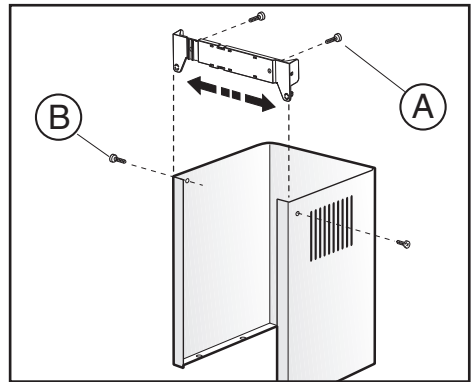
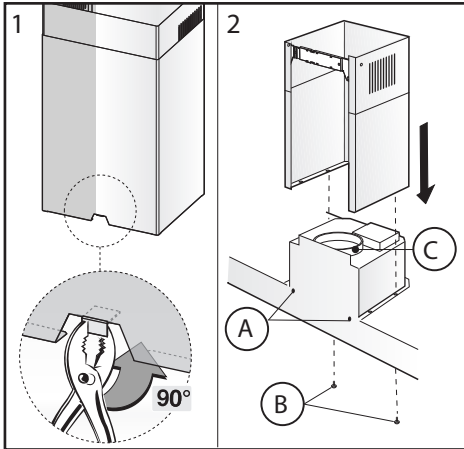

Fig.3
Fig.5
definitely fix the hood using the screws **A** (Fig.5). For the various installations use screws and screw anchors suited to the type of wall (e.g. reinforced concrete, plasterboard, etc.). If the screws and screw anchors are provided with the product, check that they are suitable for the type of wall on which the hood is to be fixed.
**warning!** Caution! If your appliance model features the lower connector with a tab, before fixing it in place bend the tab inwards using a pair of pliers, as illustrated in **figure 5, step 1**. Arrange the electrical power supply within the dimensions of the decorative flue. If your appliance is to be installed in the ducting version or in the version with external motor, prepare the air exhaust opening. Adjust the width of the support bracket of the upper flue (Fig.3). Then fix it to the ceiling using the screws **A** (Fig.3) in such a way that it is in line with your hood and respecting the distance from the ceiling indicated in Fig.2. Connect the flange **C** to the air exhaust hole using a connection pipe (Fig.5). Insert the upper flue into the lower flue. Fix the lower flue to the hood using the screws **B** provided (Fig.5), extract the upper flue up to the bracket and fix it with the screws **B** (Fig.3). To transform the hood from a ducting version into a filtering version, ask your dealer for the charcoal filters and follow the installation instructions.